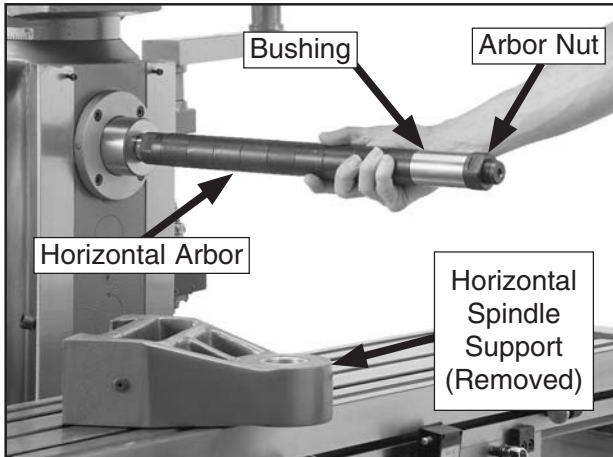

Figure 26. Horizontal arbor support removed and arbor inserted into horizontal spindle.
5. Loosen the hex nut on the left side of the horizontal arbor support and remove it from the ram dovetail way (see **Figure 26**).